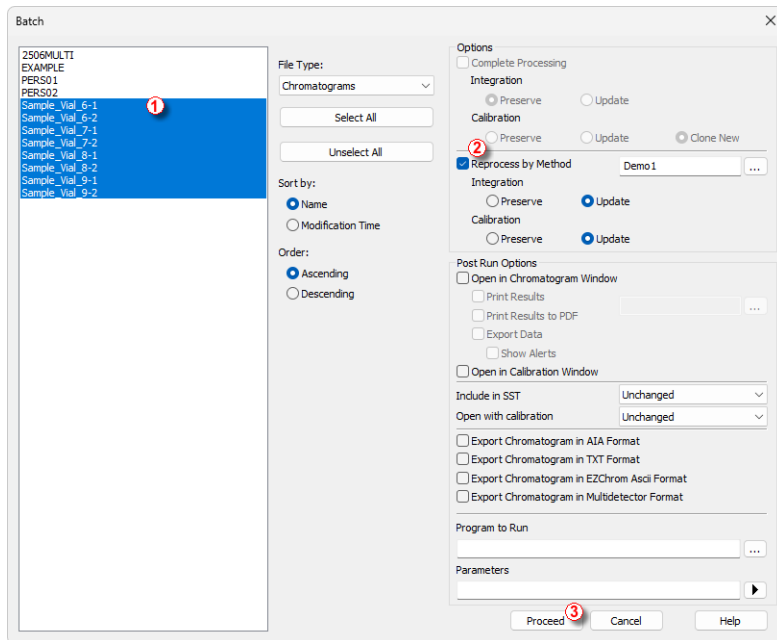

Fig. 19: Batch dialog with selected chromatograms
- Select the files to be reprocessed in the left part of the dialog ① (Fig. 19 on pg. 32.); multiple files can be selected by left-clicking them while holding the **Ctrl** or **Shift** key. For the demonstration, select all files with the names SAMPLE_VIAL_X-Y in the DATA directory to be reprocessed, check the *Reprocess by Method* ② checkbox, select the method to be used for the reprocessing, and in *Calibration* part of the Options select the *Update*. Click the *Proceed* ③ button. All the selected chromatograms will now be linked to the calibration based on the current method.